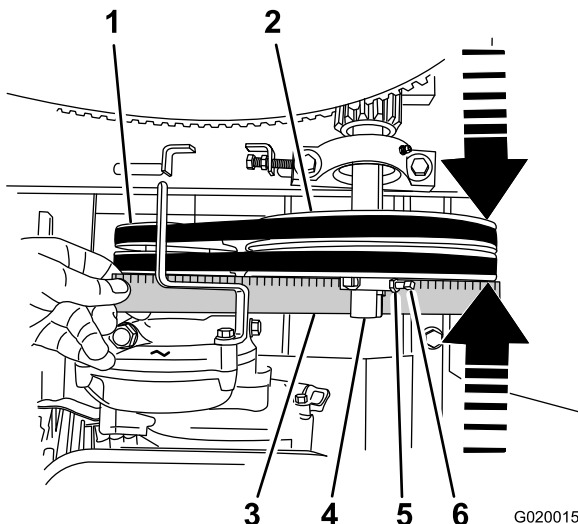

Figure 60
- B. Loosen the locknuts and set screws that secure the idler pulley to the idler shaft (Figure 60).
- C. Using a soft-face mallet, tap the idler pulley forward or backward along the idler shaft until the engine pulley and the idler pulley are aligned to the straight edge (Figure 60).
- D. Tighten the set screws and locknuts that secure the idler pulley to the idler shaft (Figure 60).
2. Place a straightedge across the face of the engine pulley and the idler pulley (Figure 60).